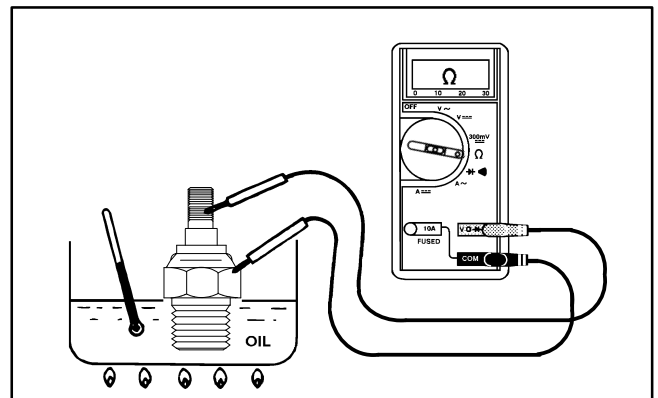

Figure 35
4. Put switch in a container of oil with a thermometer and slowly heat the oil (Fig. 35).